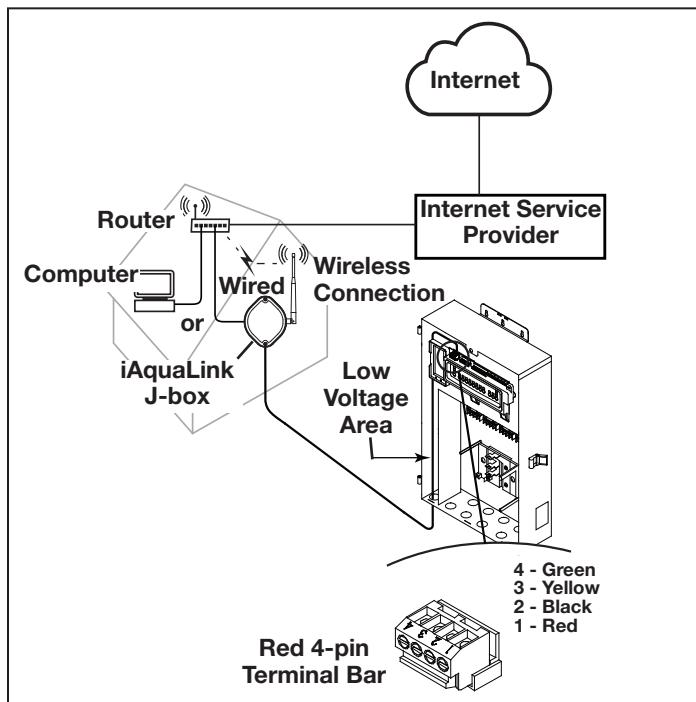

Figure 31. iAquaLink J-Box Indoor Installation
2. Mount the outdoor iAquaLink J-box at least six (6) feet (1.8 m) above the ground, at least ten (10) feet (3 m) from any motor or air blowers that may be in the vicinity, and at least five (5) feet (1.5 m) away from other transceiver J-boxes. See Figure 31.
**NOTE** To improve performance of the transceiver, mount the iAquaLink device more than six (6) feet (1.8 m) above the ground.
6. Strip each wire  $\frac{1}{4}$ " (6 mm) and connect to the red, wire connector on the power center PCB. A multiplex kit (P/N 6584) may be required if there are more than two (2) cables running to a red, wire connector on the PCB.
3. Install the iAquaLink device at least six (6) feet (1.8 m) above the ground and at least five (5) feet (1.5 m) away from other transceiver J-boxes.
5. Pull cable through the knockout and into the low voltage area. See Figure 31.
7. Strip each wire  $\frac{1}{4}$ " (6 mm) and connect to the red, wire connector on the power center PCB. A multiplex kit (P/N 6584) may be required if there are more than two (2) cables running to a red, wire connector on the power center PCB.